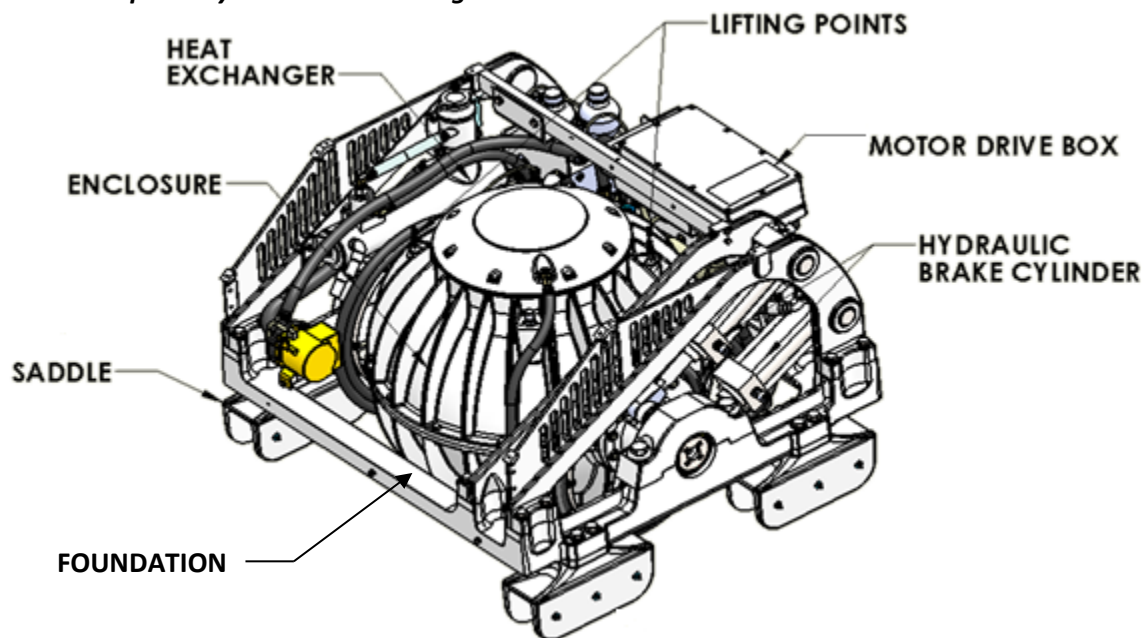

FIGURE 1 – SEAKEEPER 9 GYRO
- While handling / installing gyro assembly, protect exposed hydraulic brake cylinder rods (See Figure 1) from scratches or damage as this could lead to premature seal failure and oil leaks.